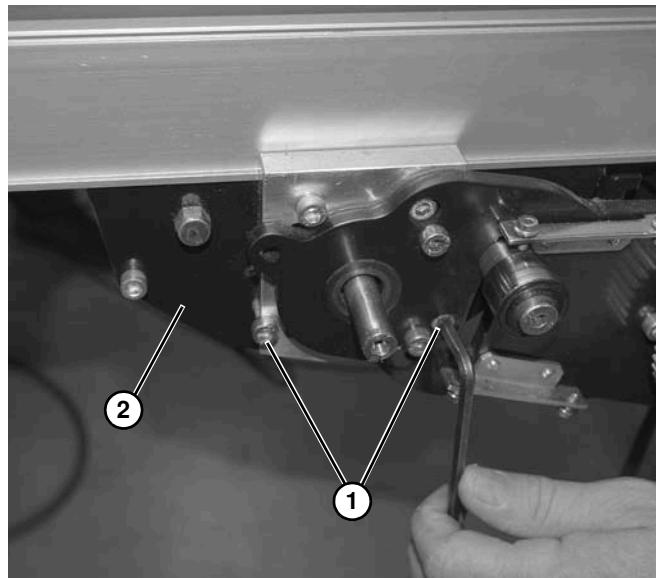

Figure 50
2. Remove two screws (Figure 50, item 1) from bottom of mid drive assembly (Figure 50, item 2) on each side.